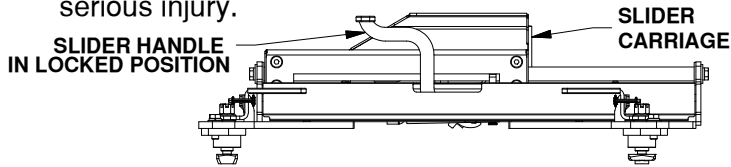

Figure A1: View of driver side of slider base.
**WARNING:** Whenever the slider base is being moved, the slider handle must be in the locked position, and the carriage must be unable to slide, see Figure A1. Failure to ensure that the handle is in the locked position can lead to property damage, or serious injury.